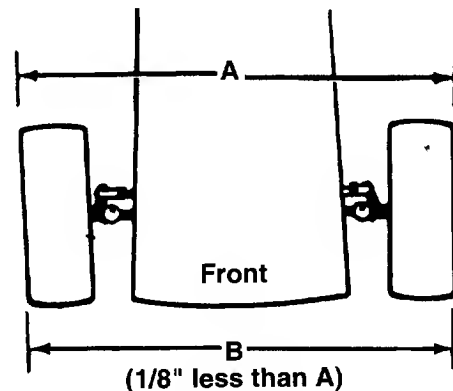

FIGURE 13.
3. Adjust the tie rod assembly for correct toe-in. See figure 13. Retighten hex jam nut.
Dimension "B" should be approximately 1/8" less than Dimension "A." See figure 13.